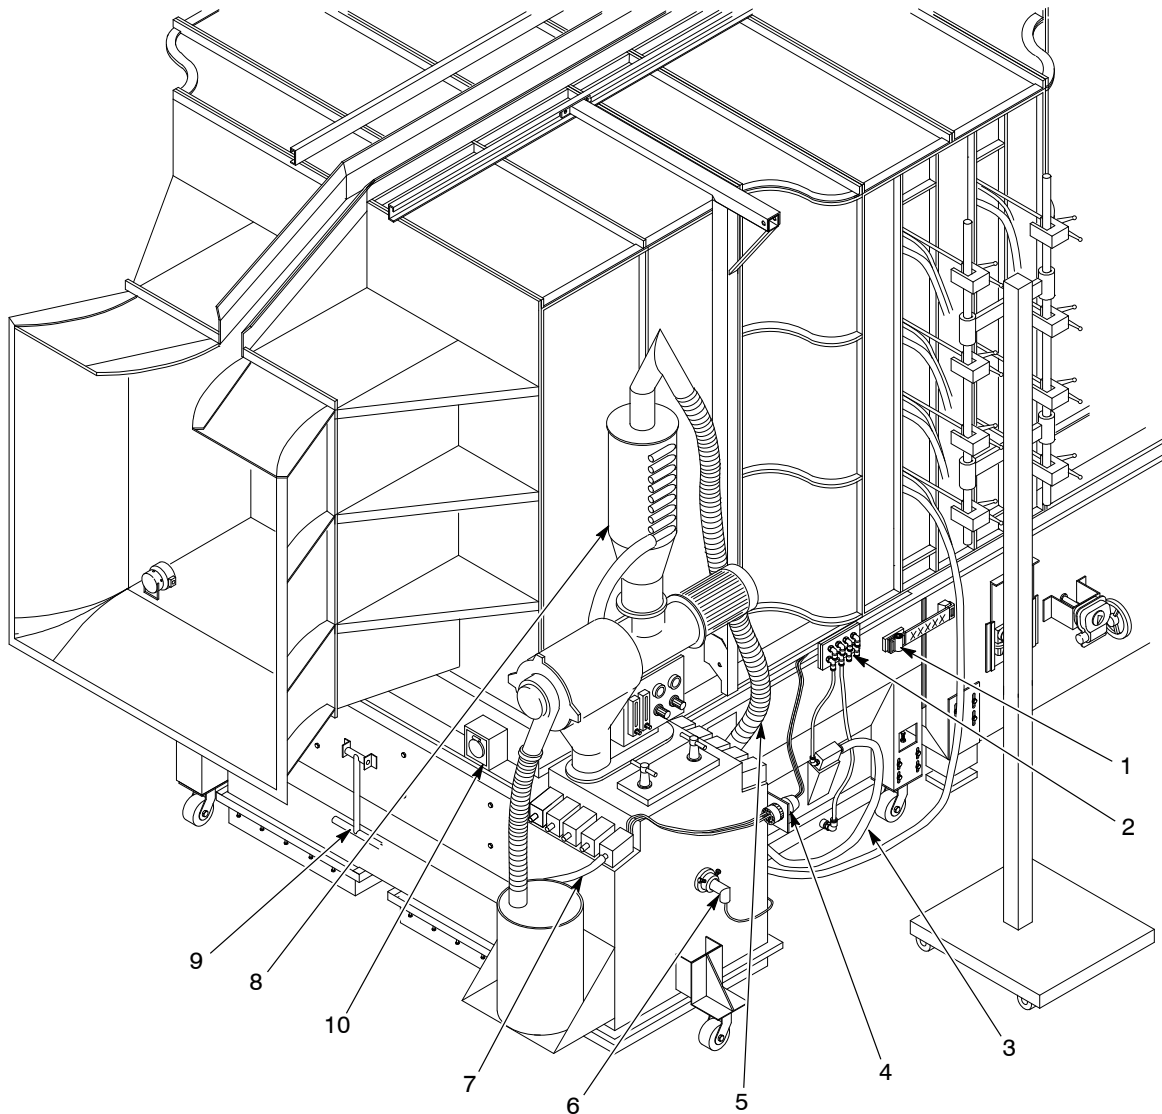

Figure 3-6 Color Change: Reclaim-to-Reclaim (Horizon 400 Shown)
1. See Figure 3-6. Disconnect the feed hoses (7) from the powder pumps. Blow the powder out of the hoses and powder spray guns with compressed air. Clean the spray guns as described in the spray gun manuals.
5. Remove the color module quick-disconnect plates (2). Uncouple the 10-tube connectors (4) from the feed hopper receptacles.
6. If you are using a rotary sieve, unplug the sieve electrical cables from the junction box (10) receptacles on the base.
7. Remove the level sensor (6) from the mounting well. Coil up the cable and store the sensor on the base.
9. Release the clamping strap ratchets (1) on the sides of the color module. Disconnect the clamping straps from the base.
2. See Figure 3-6. Position the new color module under the base, aligning the top of the color module with the floor inlet and the D-gasket with the fan compartment opening.